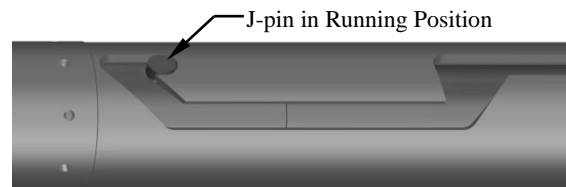

Fig. 7
L-2.20) Position J-pin in running position in J-slot of J-body (20) (Fig. 7).